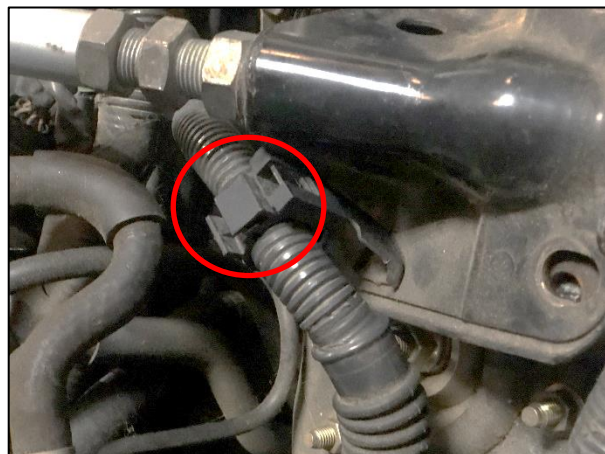

Figure 2
3. Remove the (6) six bolts and (2) two hex nuts which secure the Strut Bar to the chassis. Remove the Strut Bar and set it aside.
4. Unplug the MAF Sensor Connector and loosen the vehicle's electrical harness clips on the passenger side. *Figure 2.*